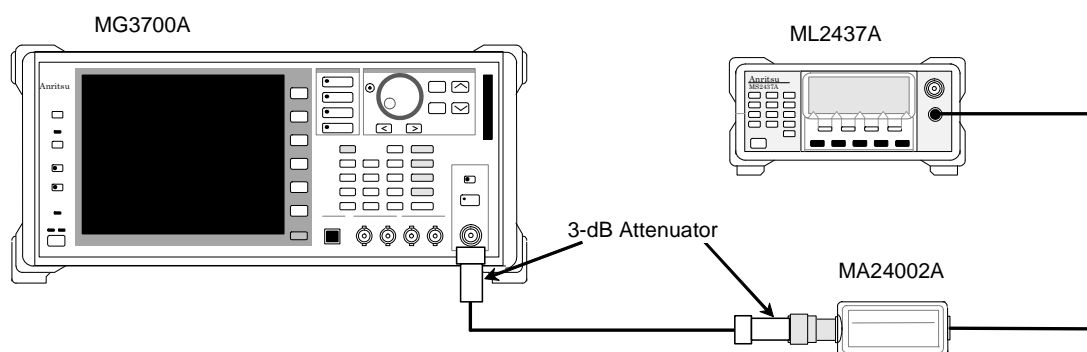

Figure 5.3.2-1 Signal Generator Calibration Setup (MOD)
1. Setup the instruments as shown in Figure 5.3.2-1.
2. Output a modulated 439.99 MHz signal from the Vector signal generator (SG) at a level of -4 dBm with Waveform pattern equivalent to MV887060A_ZB2450_0002. .